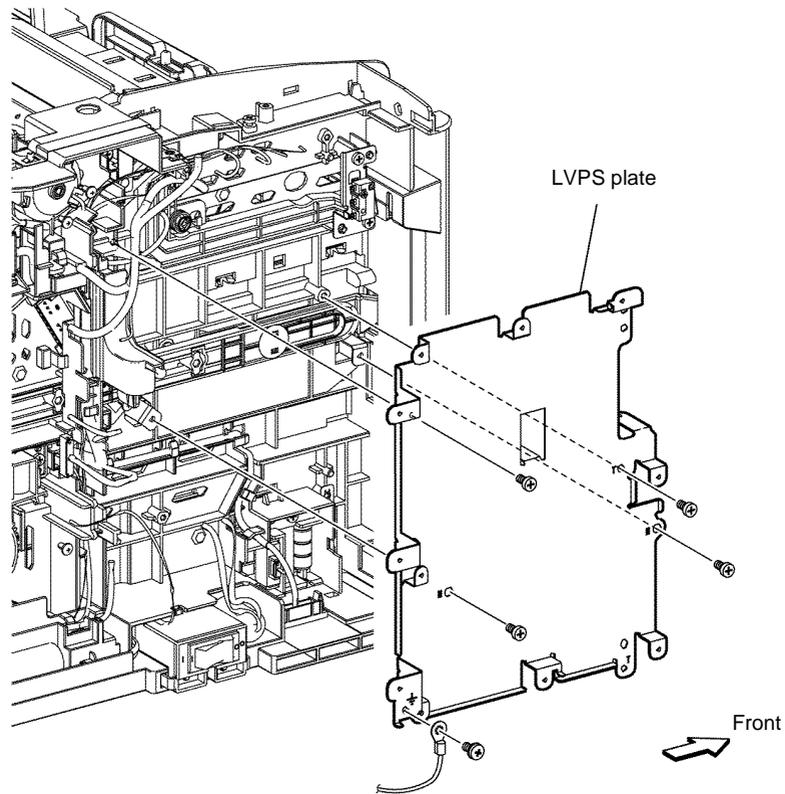

Figure 2 LVPS plate removal
15. Remove the LVPS plate, Figure 2.